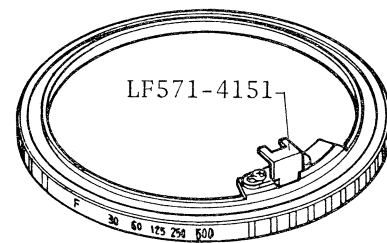

Fig.24
1. Adjustment is made by changing position of LF571-4151 coupling arm on back side of LF571-4131 shutter speed ring as shown in Fig. 24.